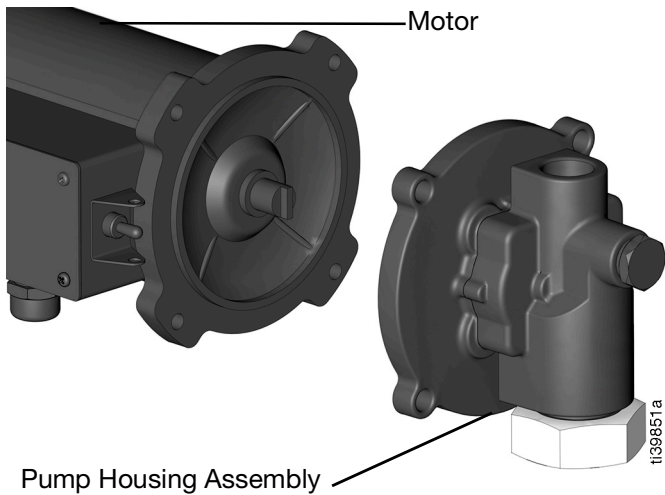

FIG. 4
6. Remove the pump housing assembly from the motor (FIG. 4).